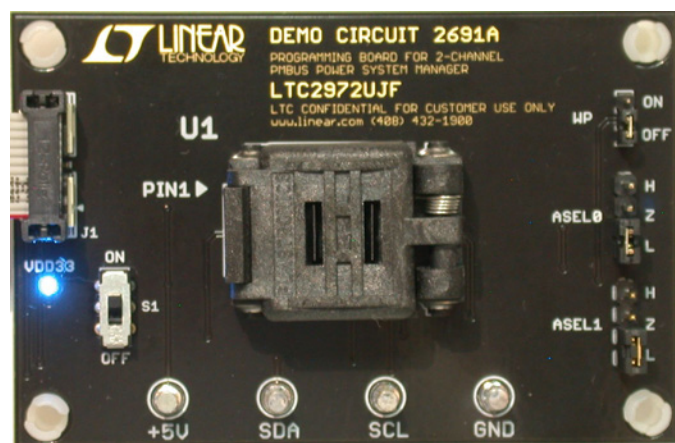

Figure 5. DC1613 Ribbon Cable Attached and Lid Closed
4. Close lid. It will snap into place. See Figure 5.